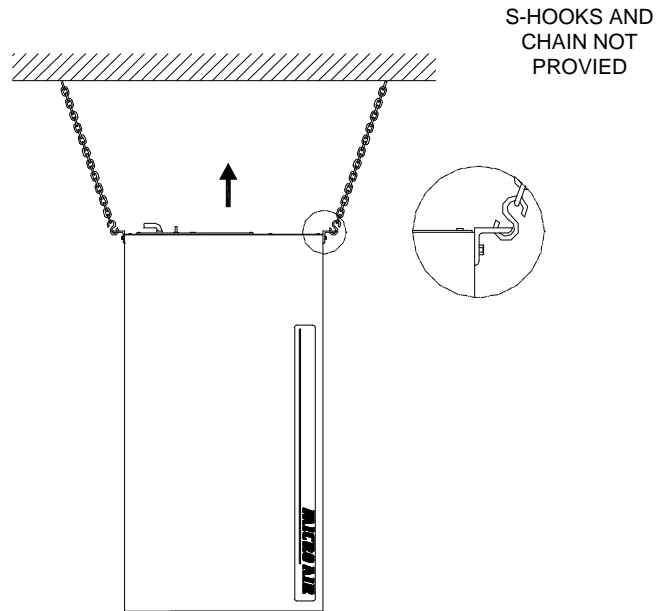

FIGURE 2
4. For vertical installation, use the optional vertical support bracket kit #34088-04. The support brackets are secured to cabinet by using the ¼-20 hex bolts supplied with the MX 1800 (See **Figure 2**).